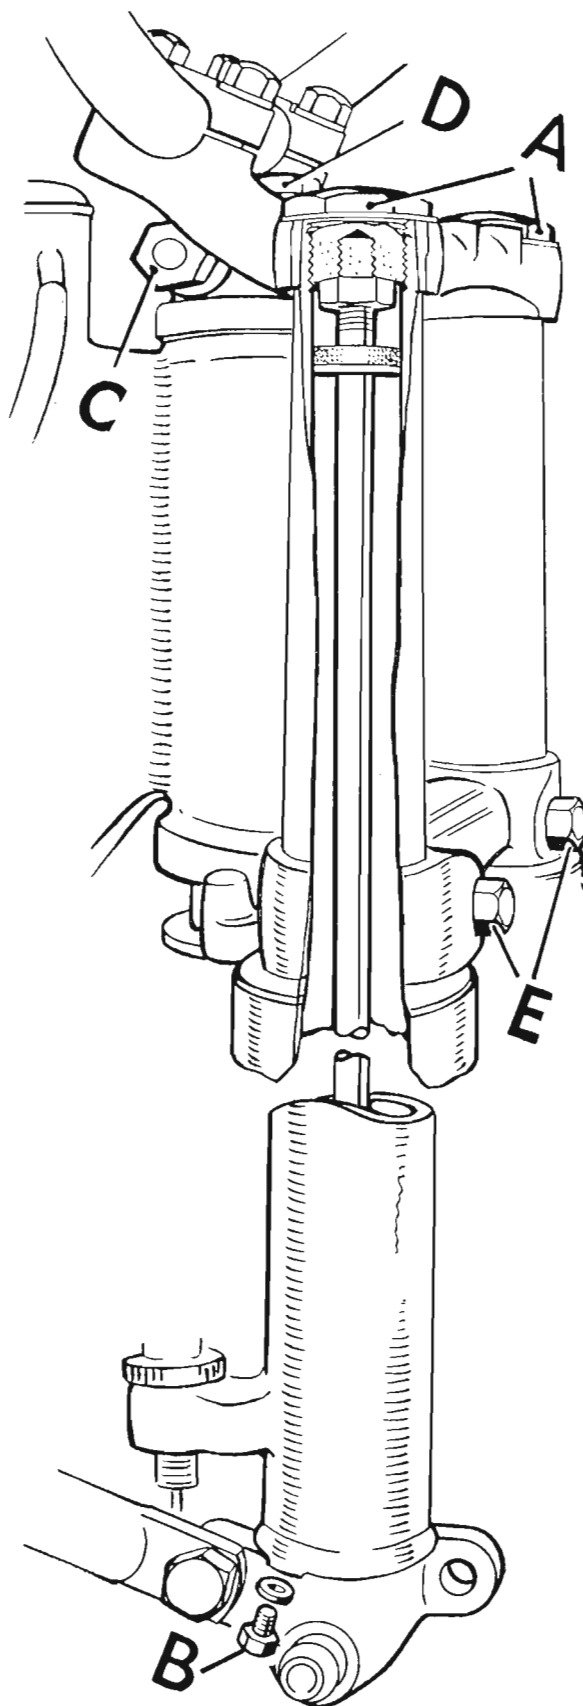

FIG. E.1.
To adjust the steering head assembly, slacken the clamp nuts (C) and (E) Fig. E.1, then tighten down the adjuster nut (D) until adjustment is correct. There should be no play evident in the races but great care must be taken not to over-tighten, or the ball bearings will become indented into the races, making steering extremely difficult and dangerous.